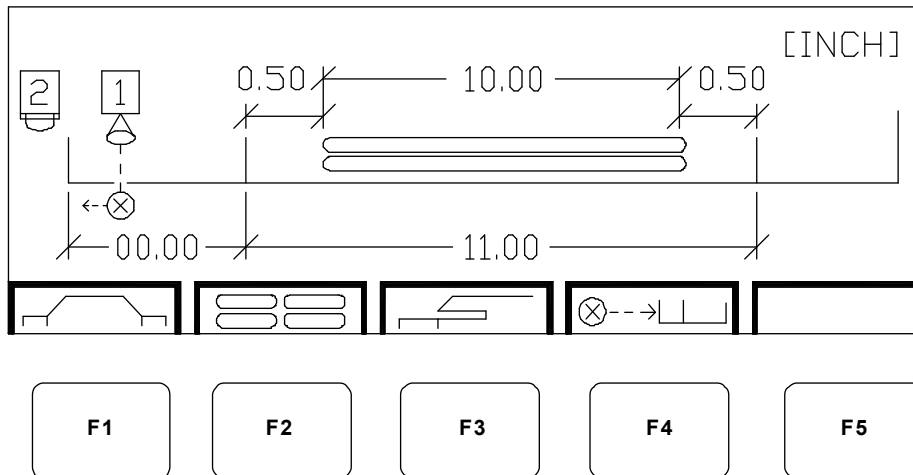

Figure 10-6. 4th-Panel-Gluing Screen
1. To select 4th-panel gluing, press F1 (□□□□). The 4th-panel-gluing screen (Figure 10-6) displays.